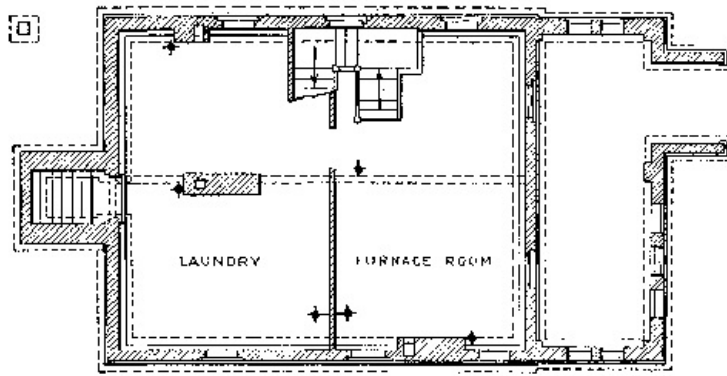

Fig. 78.
**Pipe and Fittings.**—The pipe used in gas fitting is wrought iron or steel. In special places, rubber hose is used. Brass pipe is occasionally used to advantage. The fittings used in iron pipe gas work should be galvanized. No plain fittings should be allowed. The plain fittings very often have sand holes in them and a leak will result. Sometimes this leak does not appear until after the piping has been in use some time and the expense of replacing the fitting can only be guessed at. By using galvanized fittings, this trouble will be eliminated. All fittings used should be of the beaded type. The fitting and measurement of this work is practically the same as described under iron pipe work. To have the beginner get a clearer idea of gas-piping a building, the piping of the small building sketched will be gone over in detail and studied. One of the first important steps that a gas fitter is confronted with is the locating of the various lights and openings. With these located as shown on the plan, Figs. 78, 79 and 80, we will proceed to work out the piping. The first floor rise will be 1-inch, the second floor will be 1-inch. The horizontal pipe supplying the first floor outlets will be  $\frac{3}{4}$ -inch pipe. The horizontal pipe on the second floor will be  $\frac{3}{4}$ -inch. The balance of the pipe will be  $\frac{3}{8}$ - or  $\frac{1}{2}$ -inch. At this point your attention is called to the sketch of piping, sizes, and measurements. This sketch should be studied and understood in detail. The good mechanic will employ a sketch of this kind when installing any piping. The poor mechanic will take two or three measurements and get them out, put them in, and then get some more. This method is extremely costly and unworkmanlike. There is no reason, except the ability of the workman, why he cannot take a building like the sketch and get all the piping measurements for the job, then get them out, go to the job and put them in. The amount of time saved in this way is so great that a workman should not consider himself a full-fledged mechanic until he can get the measurements this way, and get them accurately. With a tape line, gimlet, and plumb-bob, a mechanic is fully equipped with tools to get his measurements. If the measurements are taken with a tape line, the same tape line should be used when measuring the pipe and cutting it. When laying out the piping, never allow a joist to be cut except within 6 inches of its bearing. It is good policy never to cut timber unless absolutely necessary and then only after consulting with the carpenter. When joists have to be notched they should be cut only on the top side. The pipe as it is put in place should be braced rigidly. Wherever there is an outlet pipe extending through the wall, the pipe should be braced from all sides so that when the fixture is screwed in it will be perfectly rigid.